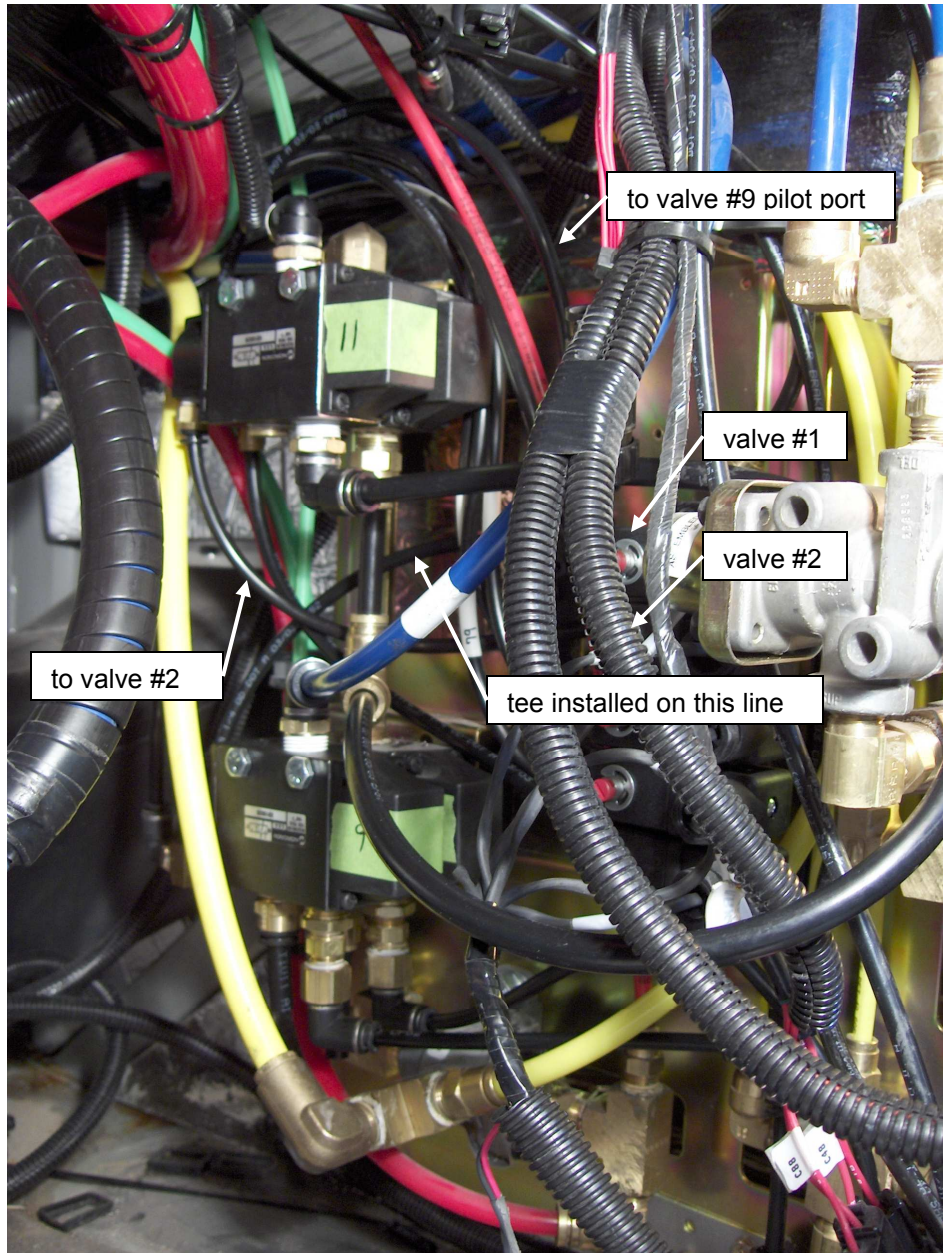

Figure 6 – Valve #9 & 11 Mounting
6. Remove mounting bolts from valve #12, install valve #11 using (2) HHC6M80 as shown in Figure 6.
7. Remove mounting bolts from valve #10, install valve #9 using (2) HHC6M80 and (2) HNILN6M as shown in Figure 6.
9. Install KVT07-00 (tee) on air line that runs from valve #1 to the pilot port on valve #10. Install air line from tee to the pilot port on valve #9, with the air line running up and over valves #11 & 12, as shown in Figure 6.
10. Install air line from valve #2 to pilot port on valve #11, as shown in Figure 6.